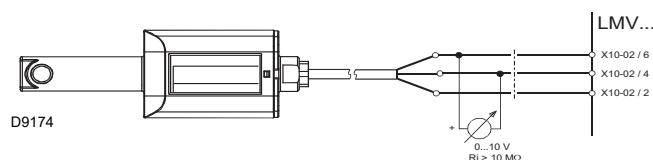

Fig. 32
- extract the QRI flame detector 1)(Fig. 32);
In order to measure, use a voltmeter with a 10V DC scale connected as in the diagram (Fig. 32).